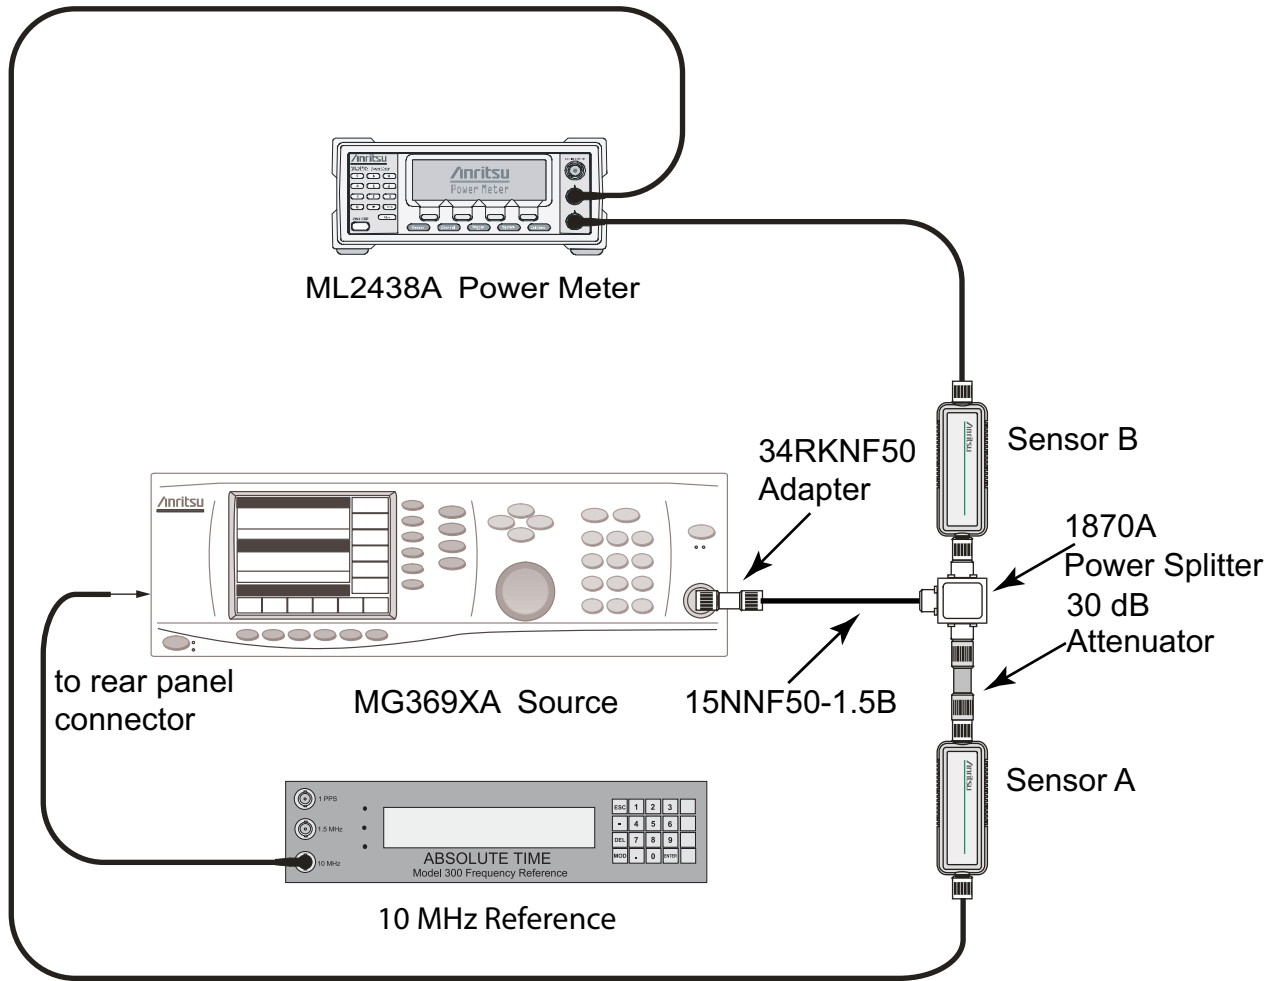

Figure 2-8. Spectrum Analyzer Level Accuracy Verification Characterization Setup
25. Connect the power splitter to the Synthesized Signal Generator output and connect Sensor B to one of the power splitter output connections. Install the 30 dB fixed attenuator to the other power splitter output connection, and connect Sensor A to the attenuator as shown in Figure 2-8.